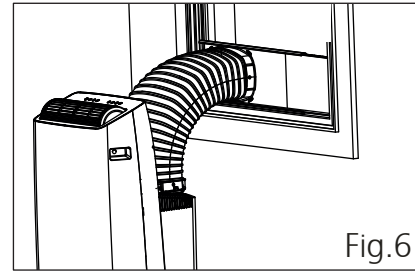

Fig.6
5. Attach the hose to the window slider panel by inserting the end of the hose into the opening on the slider.(see Fig.6)